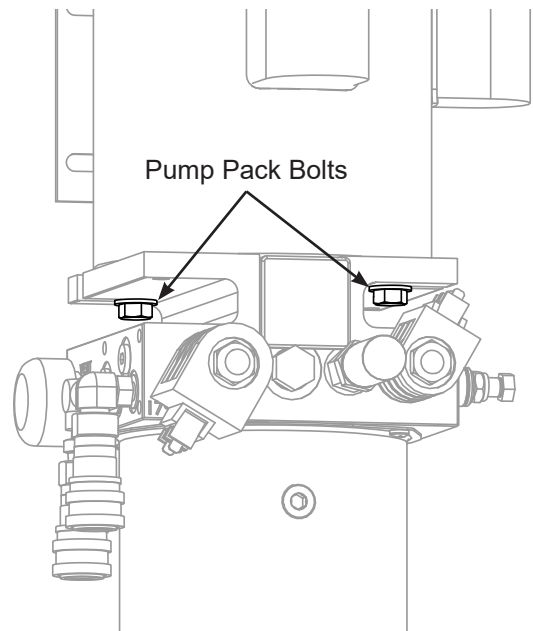

Figure 4. Remove Pump Pack Bolts
10. Remove the two bolts and washers holding the motor to the pump pack with a 9/16 in wrench. The bolts are secured with blue thread lock so additional torque may be required (Figure 4).